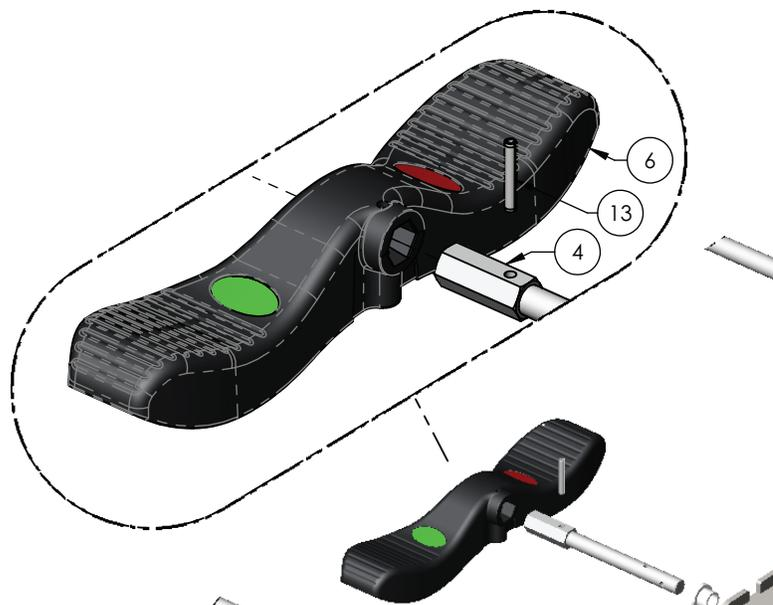

Figure 2 – Brake pedal replacement
2. Using a hammer and punch, drive the roll pin (13) out of the pedal (6) to remove and discard the pedal (6) (Figure 2).